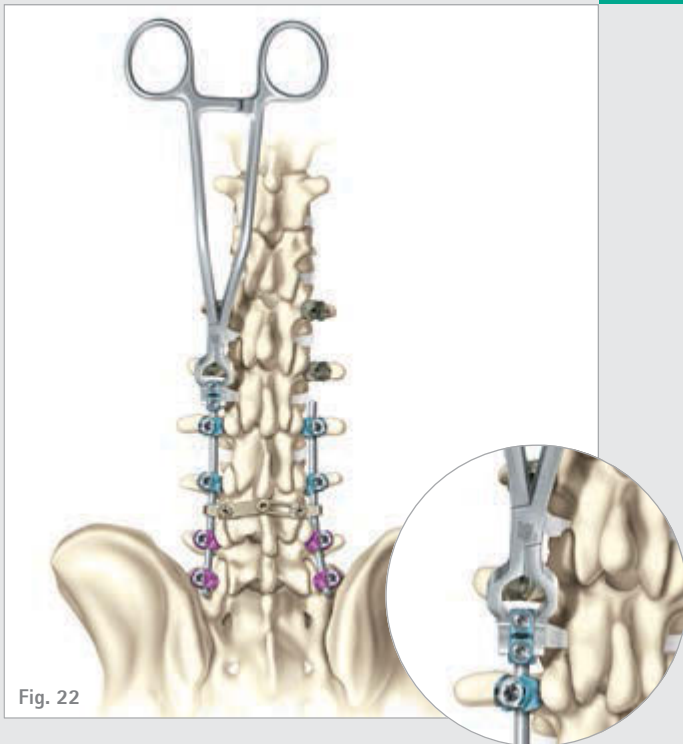

Fig. 22
- Use the Rod-To-Rod Connector Inserter (FW493R) to grab the connector and fully seat the rods inside the connector and confirm adequate rod placement using the provided window on the connector. (Fig. 22)